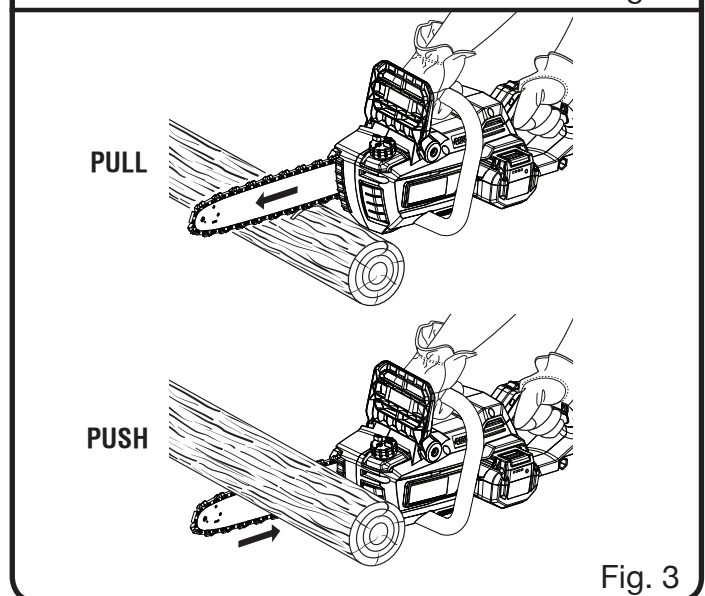

Fig. 3
- Push and Pull – This reaction force is always opposite to the direction the chain is moving where wood contact is made. Thus, the operator must be ready to control the PULL when cutting on the bottom edge of the bar, and PUSH when cutting along the top edge. See Figure 3.